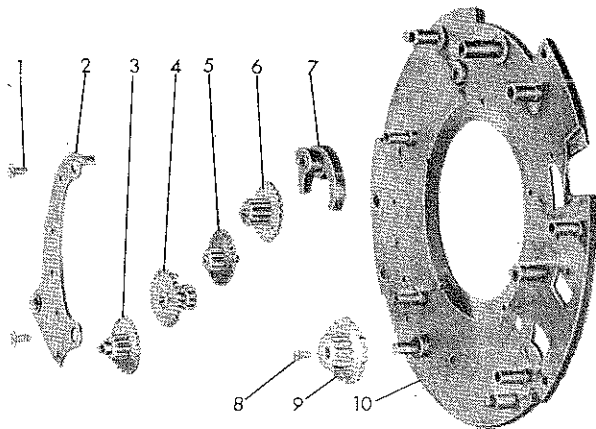

Figure 44—Delayed Action Gear Train, Exploded
(3) DELAYED ACTION GEAR TRAIN. (See figure 44.)
—If the delayed action winding lever (12, figure 33) does not hold after it has been set, the lug on the delayed action trigger latch (13, figure 34) which extends down into the case is slipping past the pivot on the pallet with pivot (7, figure 44). Reshape the lug on the trigger latch until it comes in contact with the pivot and holds the pallet so that the delayed action gears cannot move.